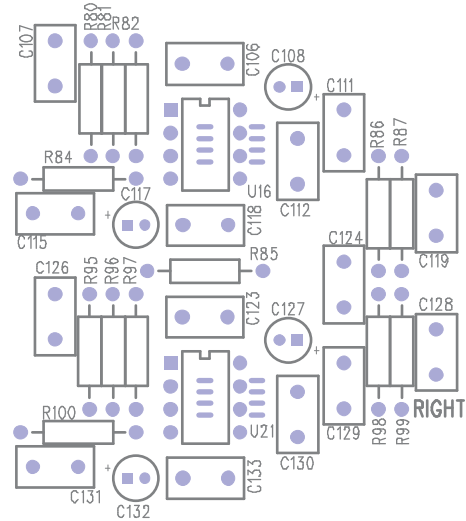

Figure 18. Location of R80, R82, R95, and R97
3. Replace R80, R82, R95, and R97 with 1 kΩ, 0.1% resistors to adjust gain and bias (see Figure 18).